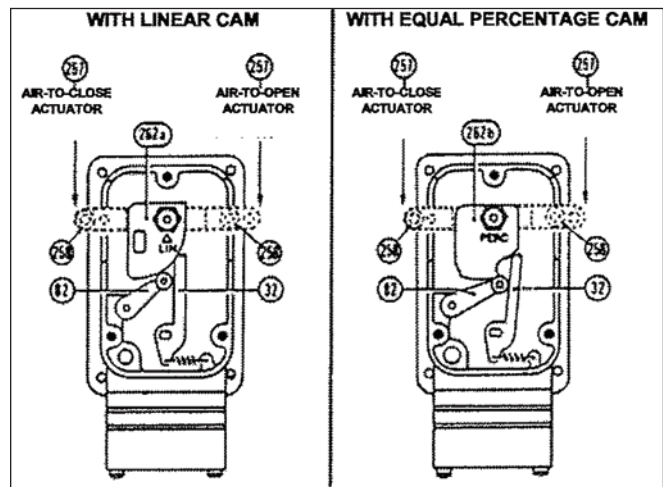

Figure C3 - Position of the came, rear lever and bearing S/A
- Reassemble the cam/lever S/A in the operating position and securely tighten nut (90). Replace the subassembly on post (80). Be careful to correctly place the bearing lever (82) in regard to the cam and the lever (32) of spring (figure C3). Replace retaining ring (91).